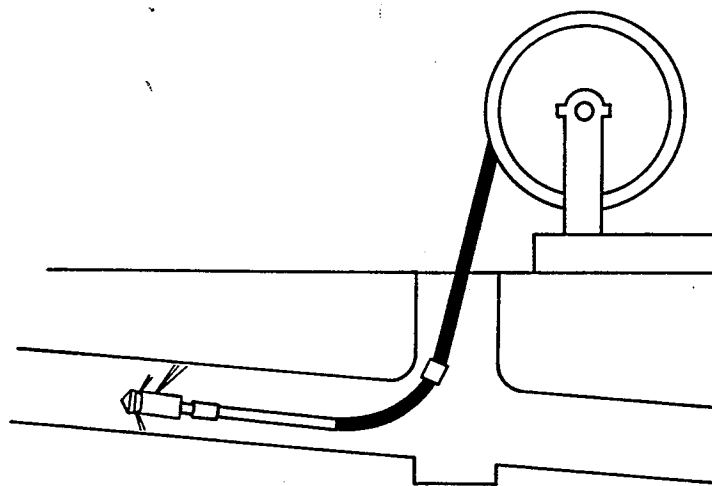

Figure 28. Moleing
13.25 **Moleing** - An application whereby a hose fitted with a nozzle is inserted into, and retracted from, the interior of a tube. It is a system commonly used with a self-propelling nozzle for cleaning the internal surfaces of pipes or drains (Figure 28).